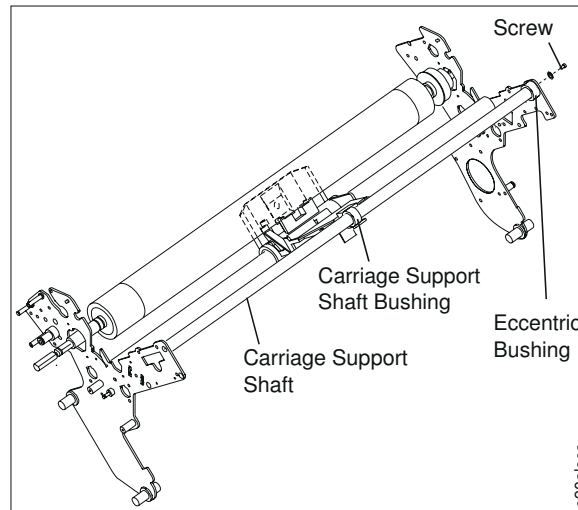

Figure 22. Carriage Support Shaft
4. Using pliers, rotate the eccentric bushing until a minimum difference between the left and right end gaps is obtained. See Figure 22.